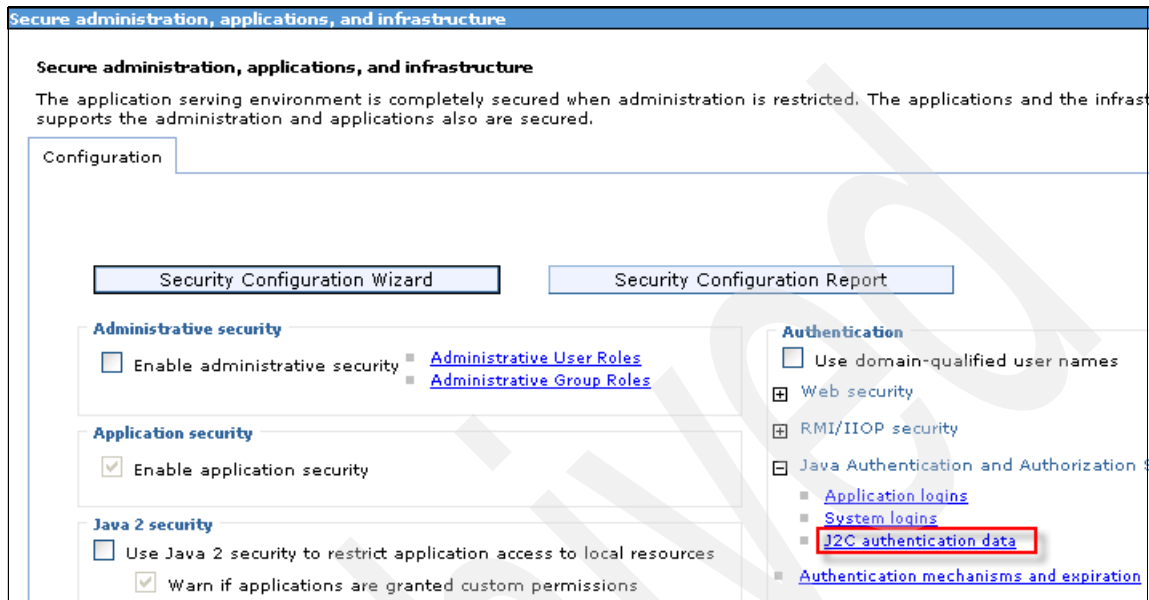

Figure 7-11 Secure administration, applications, and infrastructure
2. In the Secure administration, applications, and infrastructure panel (Figure 7-11), under Authentication, expand **Java Authentication and Authorization Service** and select **J2C authentication data**.